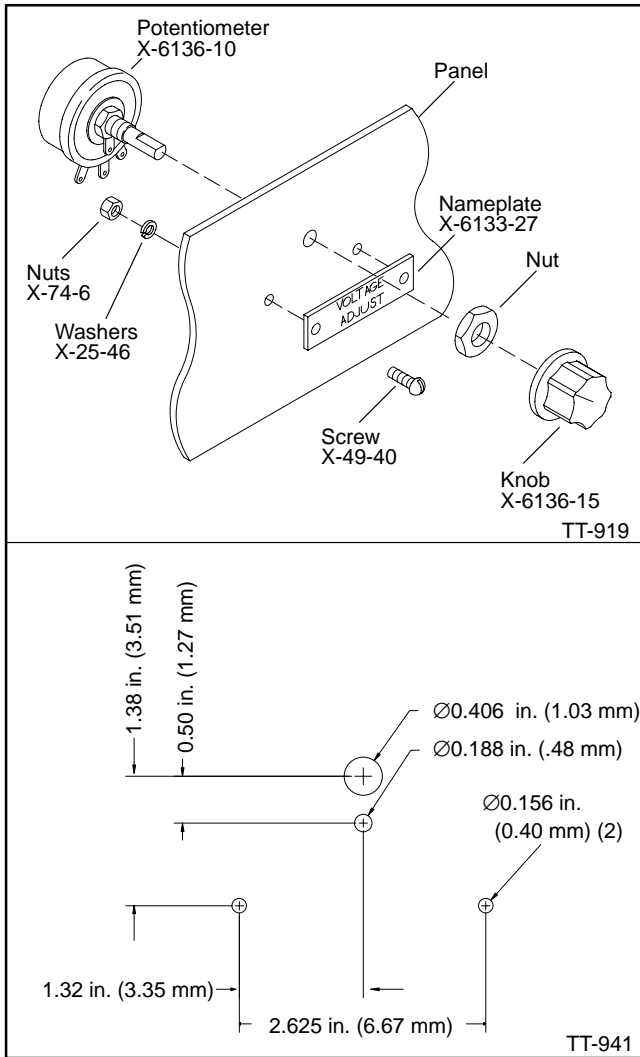

Figure 1. Potentiometer Installation
2. Determine desired mounting location for potentiometer. Drill mounting holes for potentiometer and nameplate. See Figure 1.